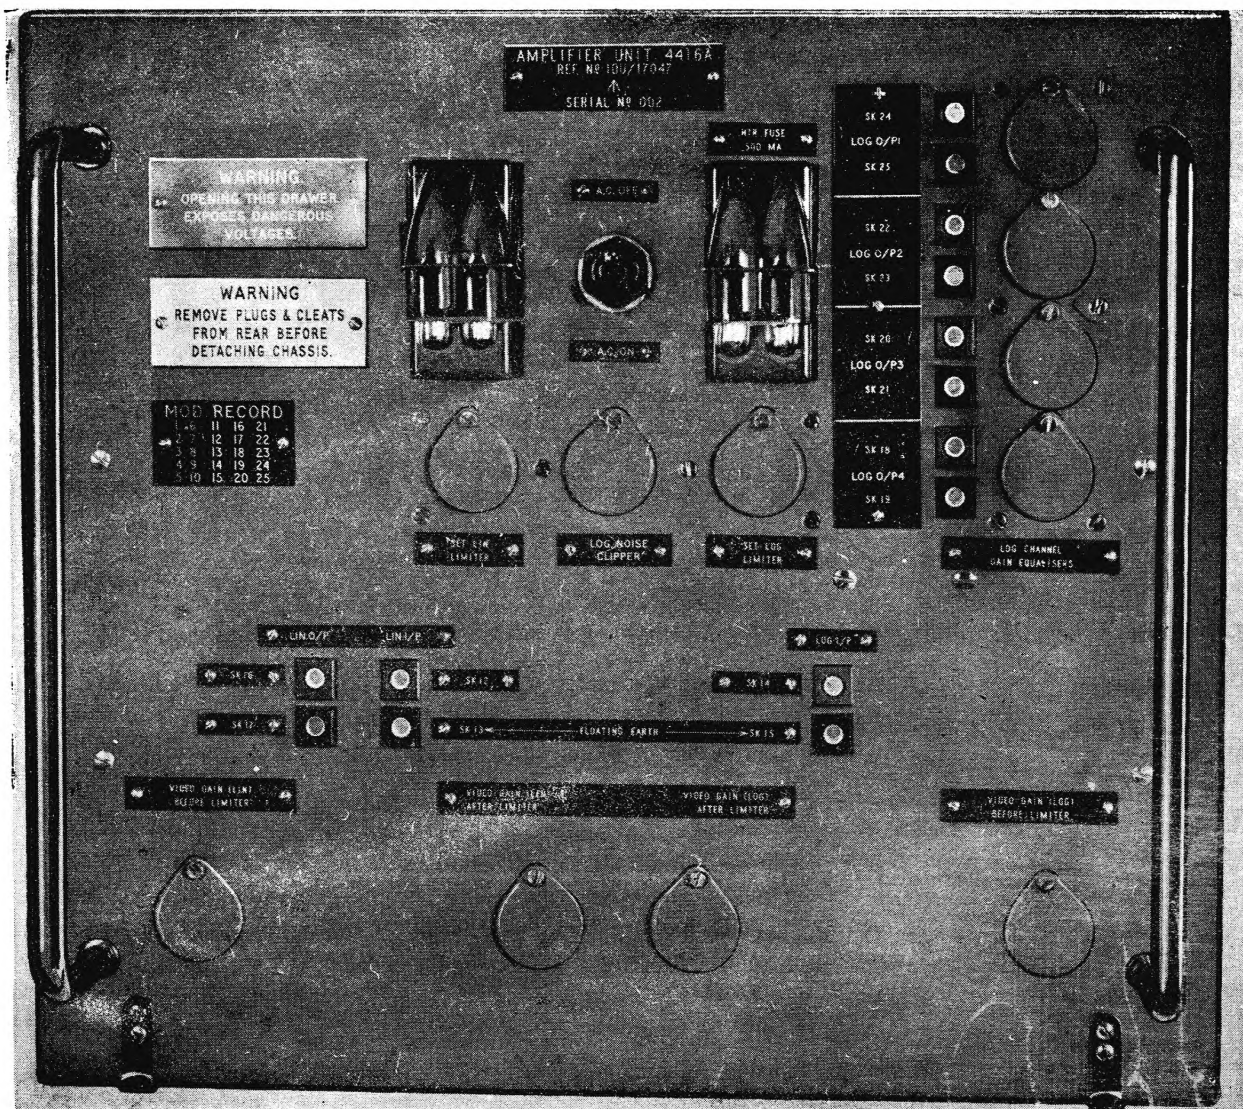

Fig. 1. Amplifying unit (video) 4416A : front panel
1. Amplifying unit (video) 4416A (*fig. 1, 2 and 3*) contains two separate but similar video amplifier channels. The lin. channel accepts the output from amplifying unit (linear) 4141A and the other channel, the log. channel accepts the output of amplifying unit (logarithmic) 4142A. Both amplify and limit the signals from Radar Type 80 before passing them to the display consoles. This unit is similar to amplifying unit (video) 4416 (*Chap. 11*).
12. The four cathode followers V18 to V21 have their individual outputs taken to monitoring points on the front panel (*fig. 1*). Their outputs are equalized by the potentiometers RV8 to RV11 connected in the screen HT supply to the respective cathode followers.